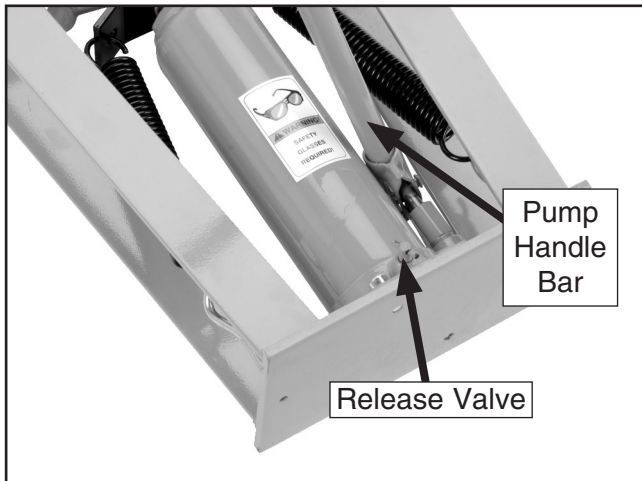

Figure 7. Operating pump and release valve.
7. Make sure the release valve is closed, then use the pump handle bar (**Figure 7**) to advance the die and bend the pipe.